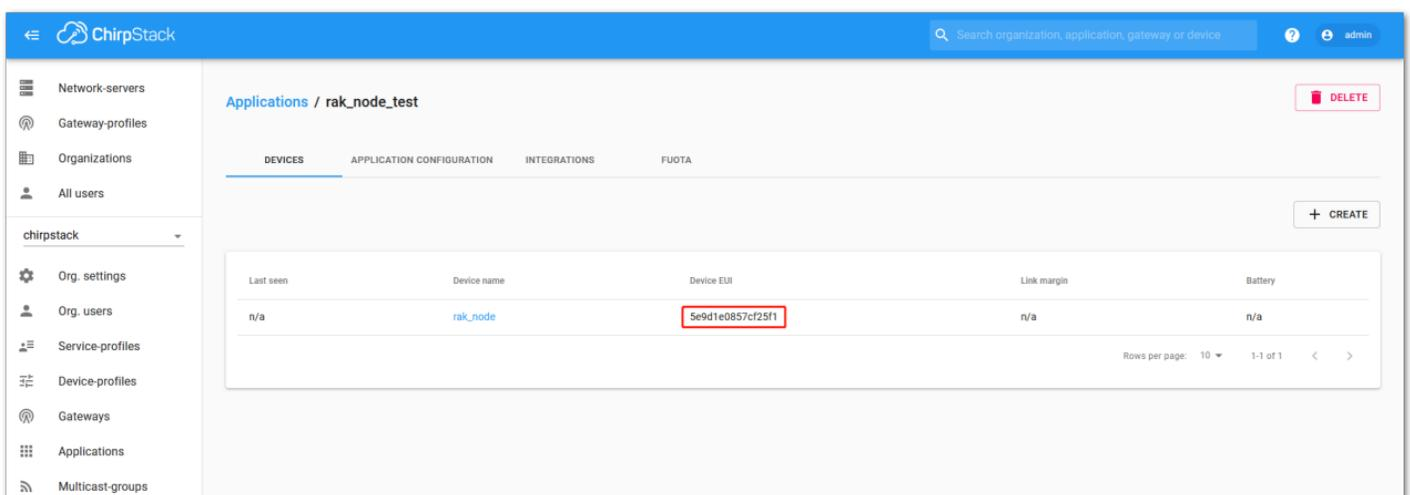

Figure 81: Chirpstack OTAA list of device in the Device Tab
- As shown in **Figure 81**, a new device should be listed in the DEVICES tab. The most important parameters, such as the Device EUI, are shown in the summary.